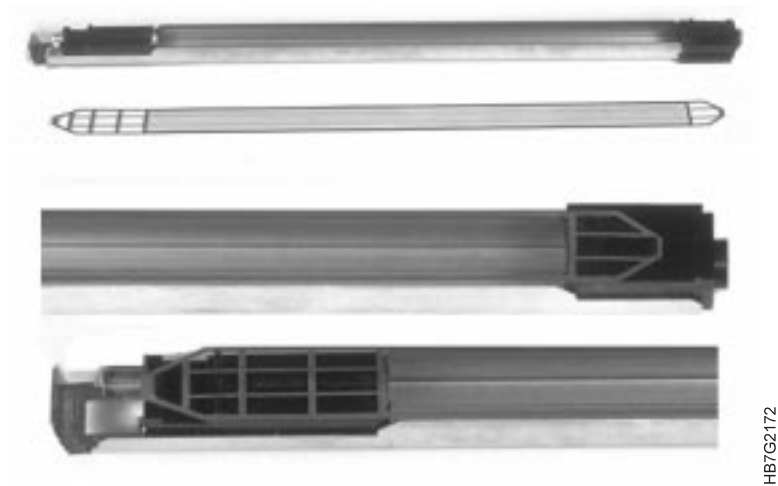

Figure 257. Aligning the Grid on a Scorotron Housing
**Note:** Ensure that you align the grid back on the housing in the correct orientation. As shown in Figure 257 on page 332, the end of the grid with the large open pattern goes back on the large black plastic housing. The end of the grid with the small open pattern goes back on the small black plastic housing.